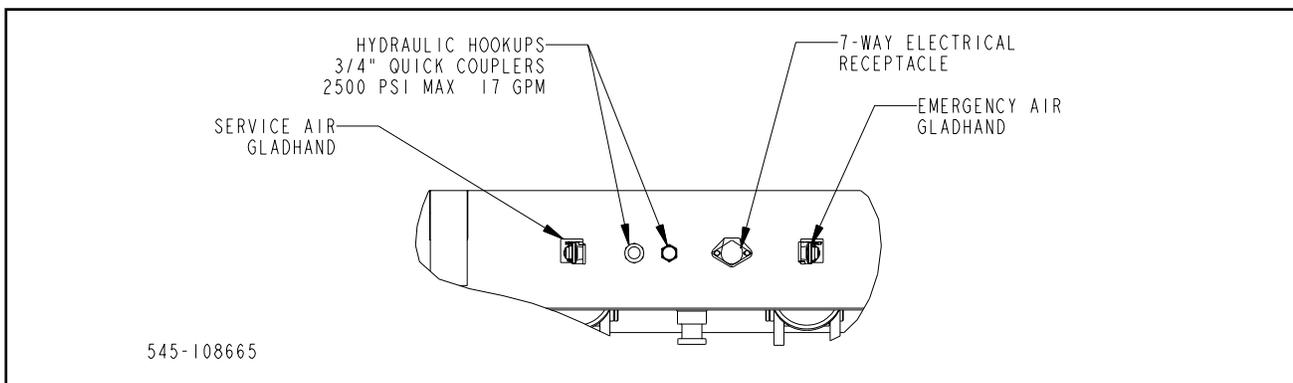

Figure 3-1 Service Hookups
3-2.3 Connect the service and emergency air hoses of the towing vehicle to their respective gladhand on the front of the semitrailer; red emergency line to the gladhand with the "EMERGENCY" tag, and the blue service line to the gladhand with the "SERVICE" tag (See Figure 3-1). Chock the semitrailer wheels before activating the semitrailer air supply valve in the towing vehicle. Set the parking brakes.
- 3-4.1** Connect the towing vehicle 7-pole electrical plug to the electrical receptacle on the front of the semitrailer (**See Figure 3-1**).